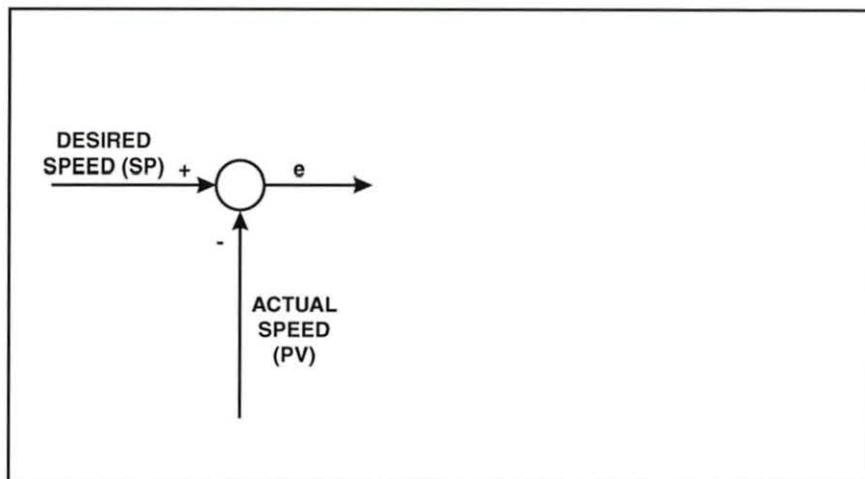

Figure 8. Circle to Indicate Comparison of Desired Speed to Actual Speed
- B. Draw a circle to indicate the driver's comparison of the desired speed to the actual speed, as shown in figure 8. In addition, add the flow lines that represent the desired speed input signal and the actual speed input signal.